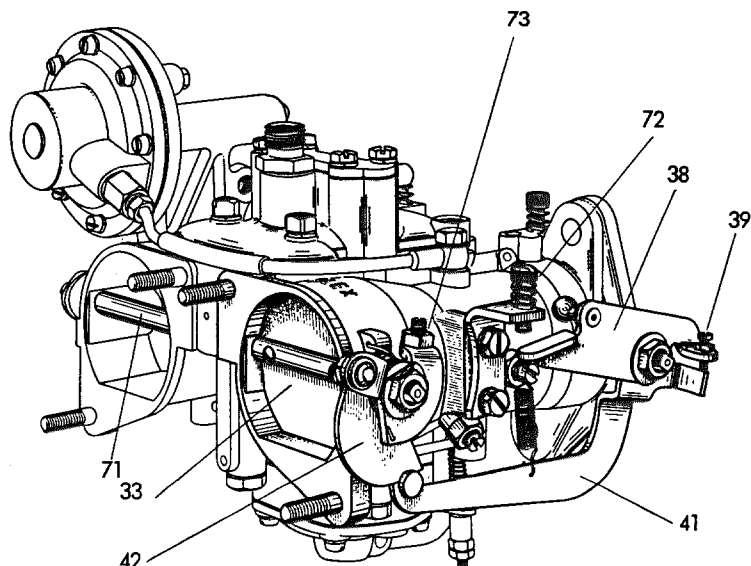

Fig. 07-0/36
When the knob is pulled out, the starter mechanism is in operation and the choke valve (33) is closed (Fig. 07-0/36).